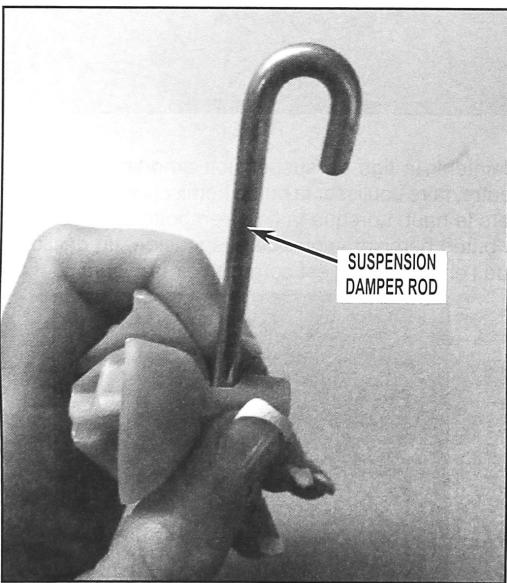

FIGURE 2
3. Align the suspension damper rod in the suspension ball slot. See *Figure 2*.